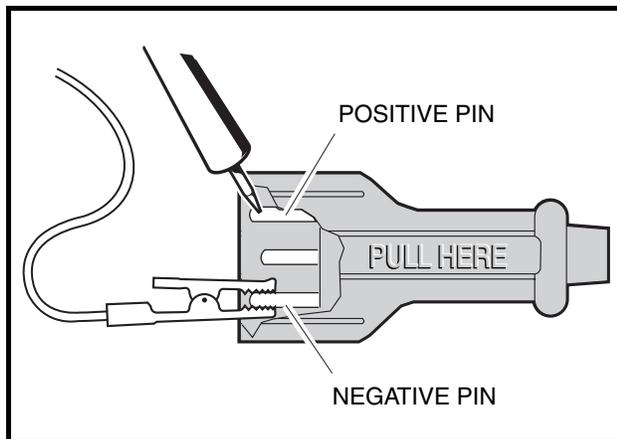

Figure 3-15 DC Plug Test
2. Using a continuity tester (CCI P/N 1011273) or multimeter set to 200 ohms, connect the test probes to the pins marked (+) and (–) on the DC plug (**Figure 3-15, Page 3-18**). Note the reading.